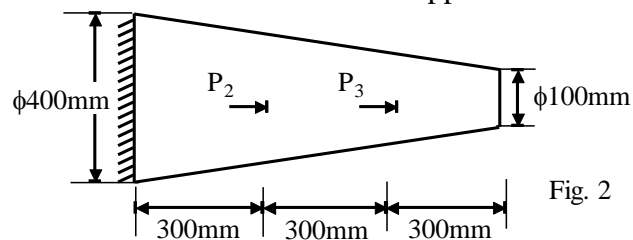

Fig. 2
8. Figure 2 shows a taper bar subjected to a point load of $P_2 = 10\text{kN}$ and $P_3 = 8\text{kN}$ having $E = 2 \times 10^5 \text{ mPa}$. Determine deflection stresses and support reaction. 13